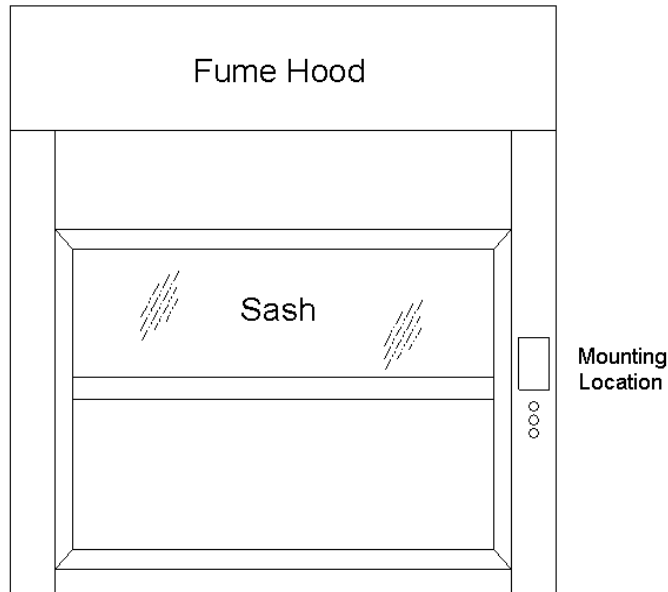

Figure 1: Mounting Location
1. Select the mounting location for the FHC50 Controller or FHM10 Monitor. The Controller or Monitor is typically mounted above the service controls (Figure 1).